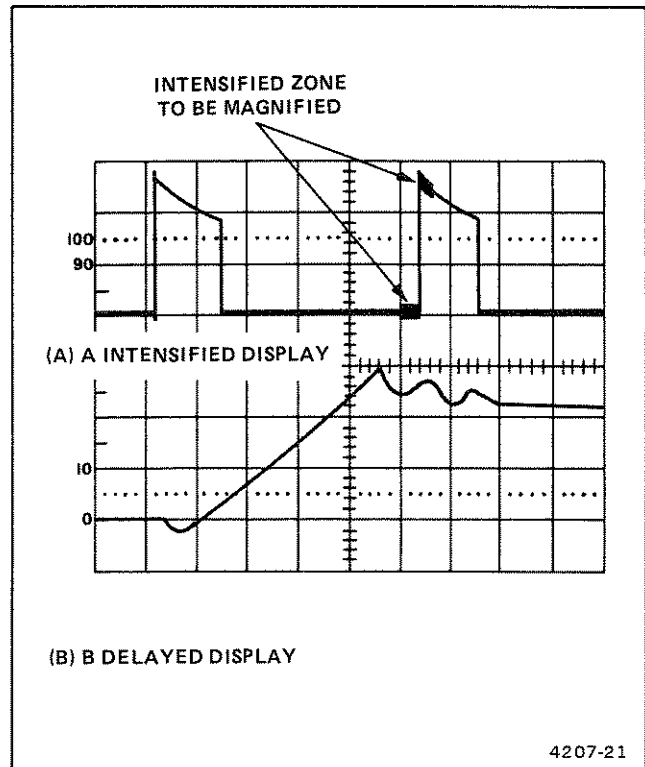

Figure 2-19. Delayed-sweep magnification.
6. Adjust the B DELAY TIME POSITION control to position the start of the intensified zone to the portion of the display to be magnified (see Figure 2-19).
7. Set the B SEC/DIV switch to a setting which intensifies the full portion of the A trace to be magnified. The intensified zone will be displayed as the B trace (see Figure 2-19). The B Horizontal MODE may also be used to magnify the intensified portion of the A Sweep.